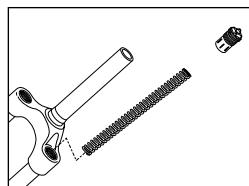

Fig. 4
2. Remove the spring stack assemblies (Fig. 4).